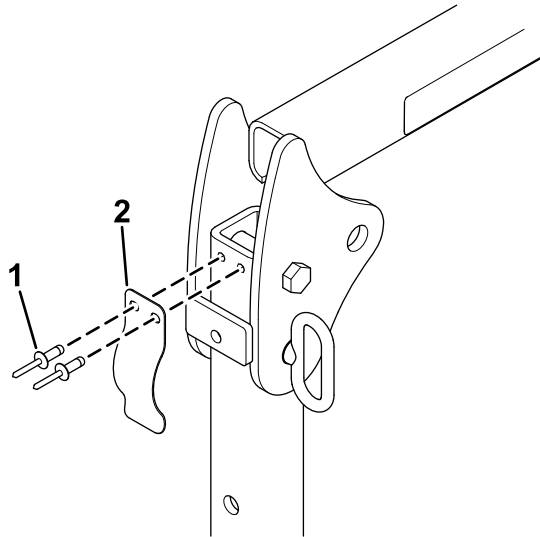

Figure 22
1. With the roll bar in the lowered position, remove the anti-rattle leaf spring (Figure 22) from each side of the roll bar.